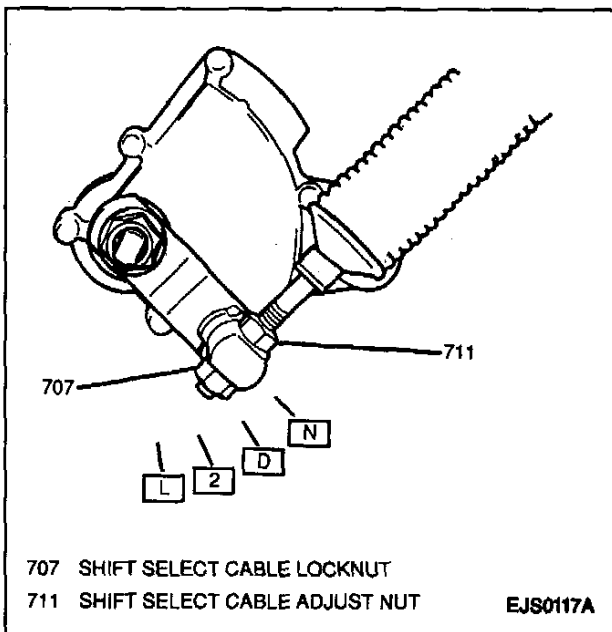

Figure 12—Shift Select Cable Locknut Installation (Typical)
3. Shift select cable into manual shift lever while moving manual shift lever back to the "N" (neutral) position; secure with select cable locknut. Do not tighten fully (Figure 12).